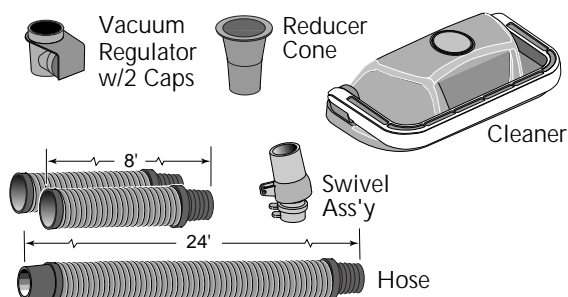

Figure 2
Step 2: Check parts (Figure 2)